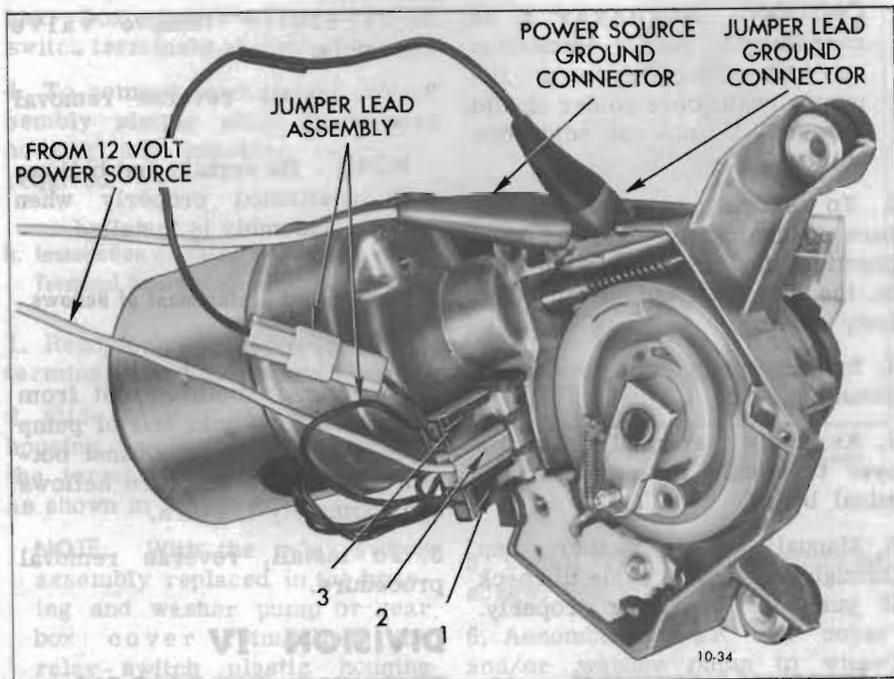

Figure 10-34—Connections to Operate Wiper Out of Car
1. Preliminary Test. Try operating wiper as shown in Figure 10-34. Check if wiper has low speed, high speed, and shuts off correctly.
b. Connect up wiper to operate in "Lo" speed (Figure 10-34). Connect ammeter (Range 0 - 30 amps.) in feed wire circuit to wiper and observe current draw. Allow motor to run until it becomes hot.
(1) If current draw is normal (3.5-5 amps. max.) and wiper cycles on and off, a weak circuit breaker is indicated. Replace case and brush assembly.
(2) If current draw exceeds 5 amps. proceed to Steps "c", "d" and "e".